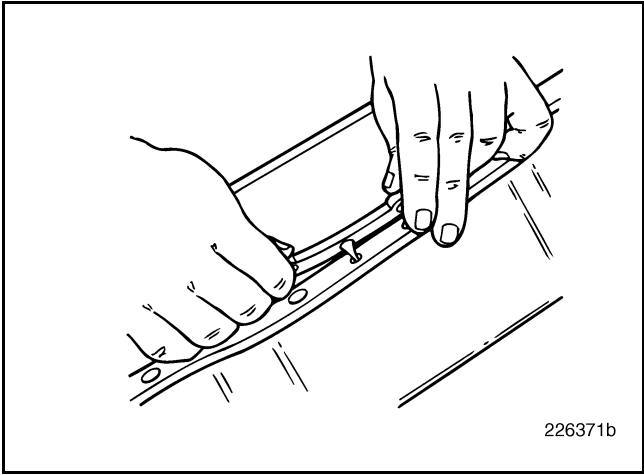

Figure 363 — Locating Cone Alignment
4. Beginning at the center of the pan at one of the rectangular tabs, align the rubber locating cones with the corresponding holes in the pan rails (Figure 363).